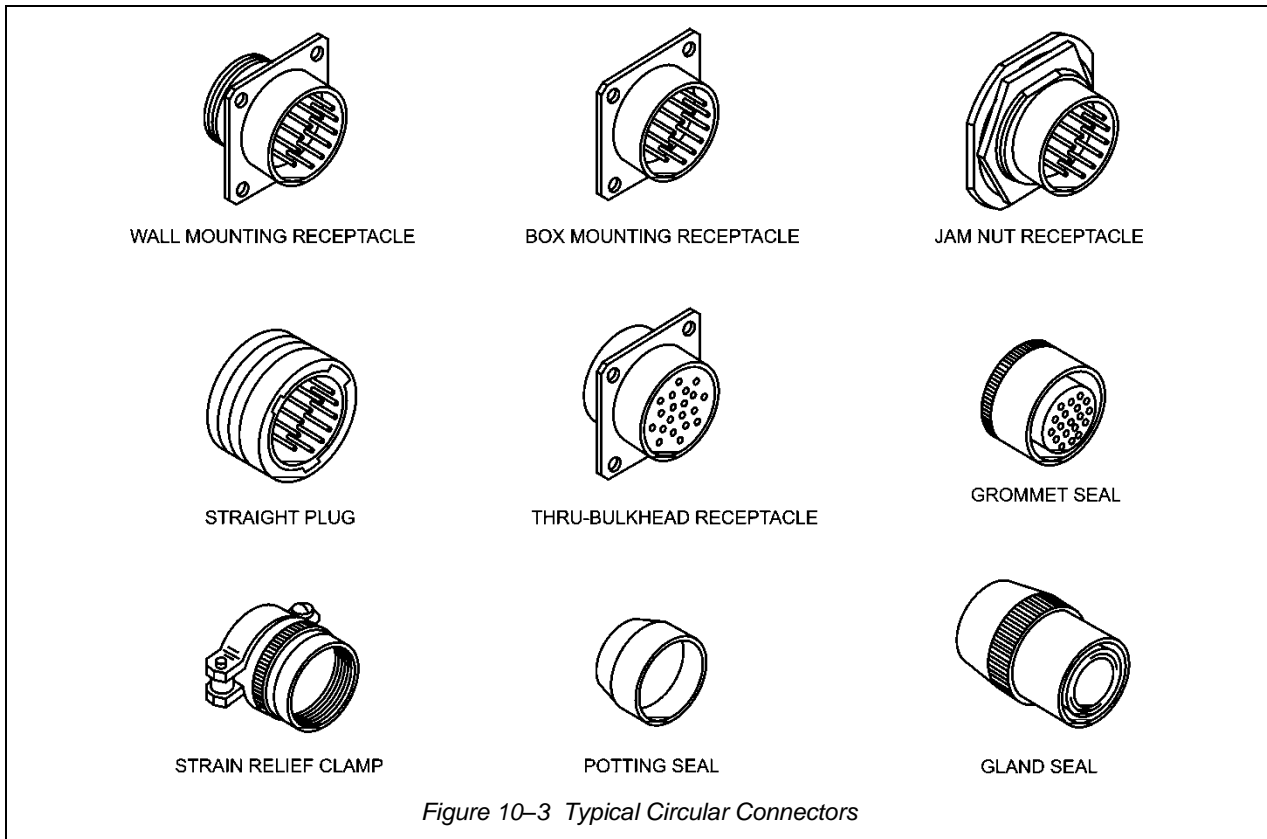

Figure 10-3 Typical Circular Connectors
- Numbers such as 3106 indicate type of shell, and whether plug or receptacle. (Refer to Figure 10-3).